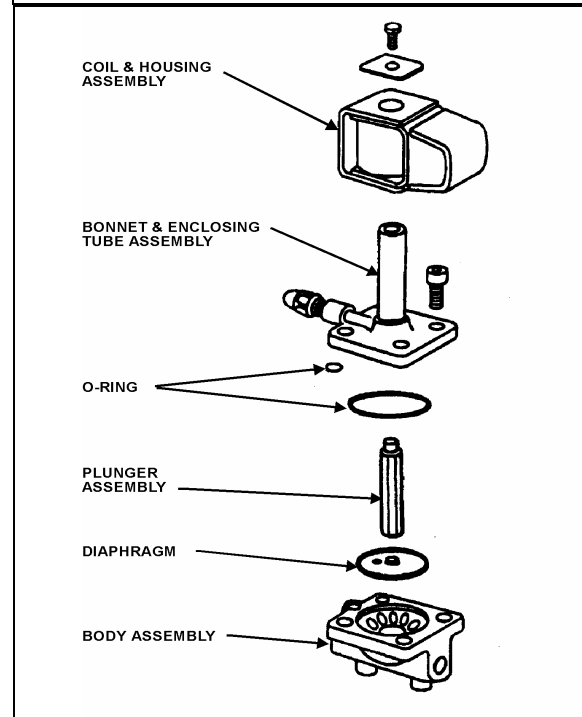

FIGURE 36: REFRIGERANT SOLENOID VALVE
3. Remove the four socket head screws which hold the body and bonnet together (Figure 36).